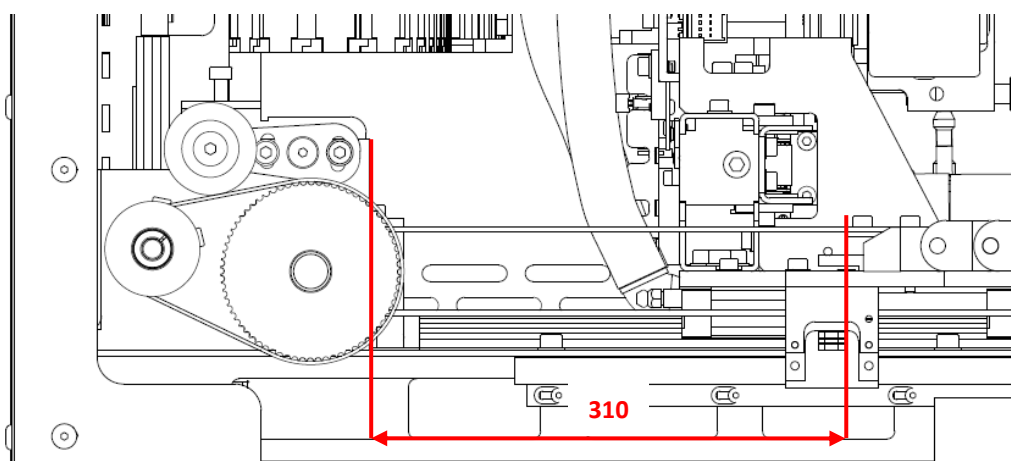
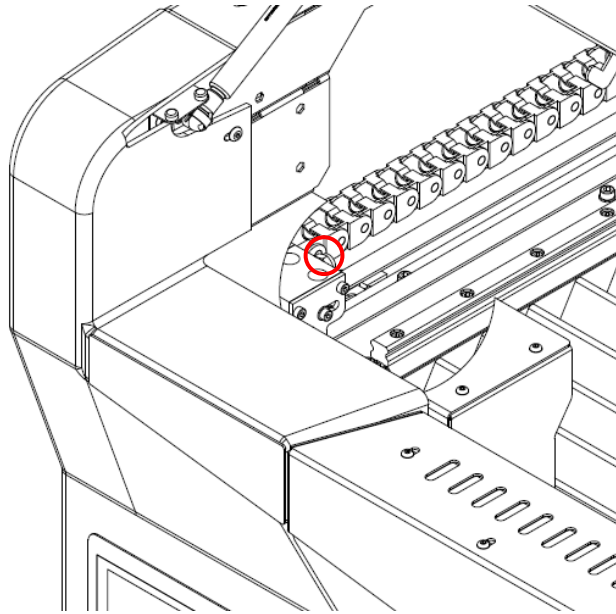

Fig. 118 Gate position for measuring belt tension
Fig. 119 Adjustment screw for the left Y-axis belt
- a) Move the X axis gate to the position shown in Fig. 118.
- c) Adjust the belt tension by tightening (to increase belt tension) or loosening (to decrease belt tension) the tensioner adjusting screw. The adjusting nuts are located just below the cover under the top cover as shown in Fig. 119 and 120. The adjustment values are shown in Table 5. They vary depending on whether you adjust a new or used drive belt. Belt tension should be measured with a belt tension meter using the oscillation frequency. The measurement should be made in the middle of the top belt visible in the inspection openings. The gate position during measurement must be set according to the guidelines in Fig. 118.